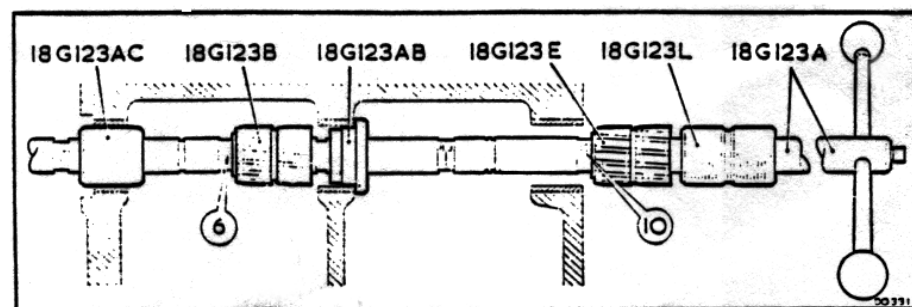

Fig. 7
7. Ream the front and rear bearing liners, using the tools shown in Fig. 7.